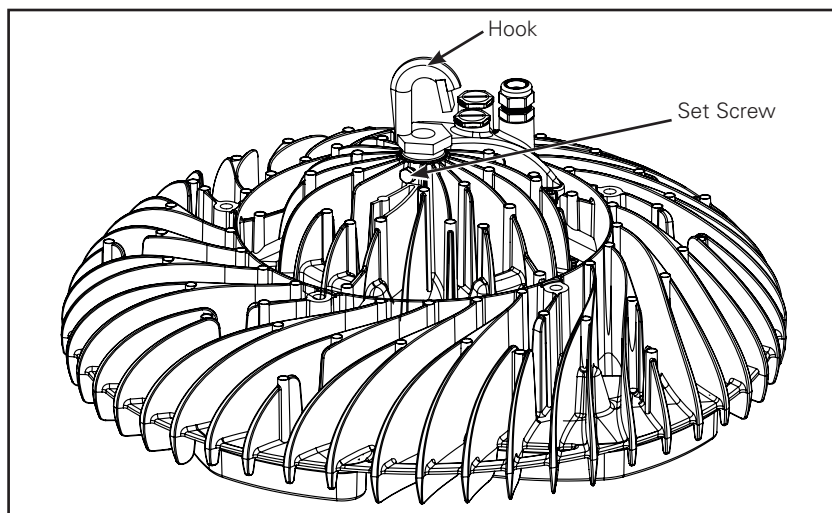

Figure 4.
1. Thread the 3/4" NPT conduit hook into the luminaire until tight (Figure 4).